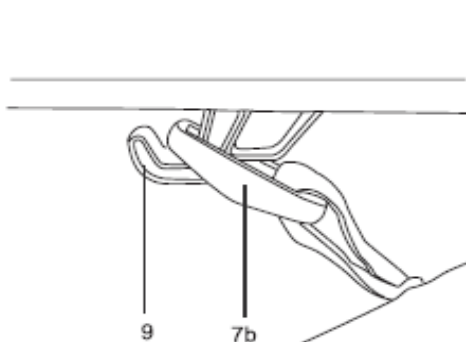

Fig. 3
3. Attach the hanging loop (7b) on the collection bag (7) to the hook (9) on the bottom side of the lower tube (12). (Fig. 3)